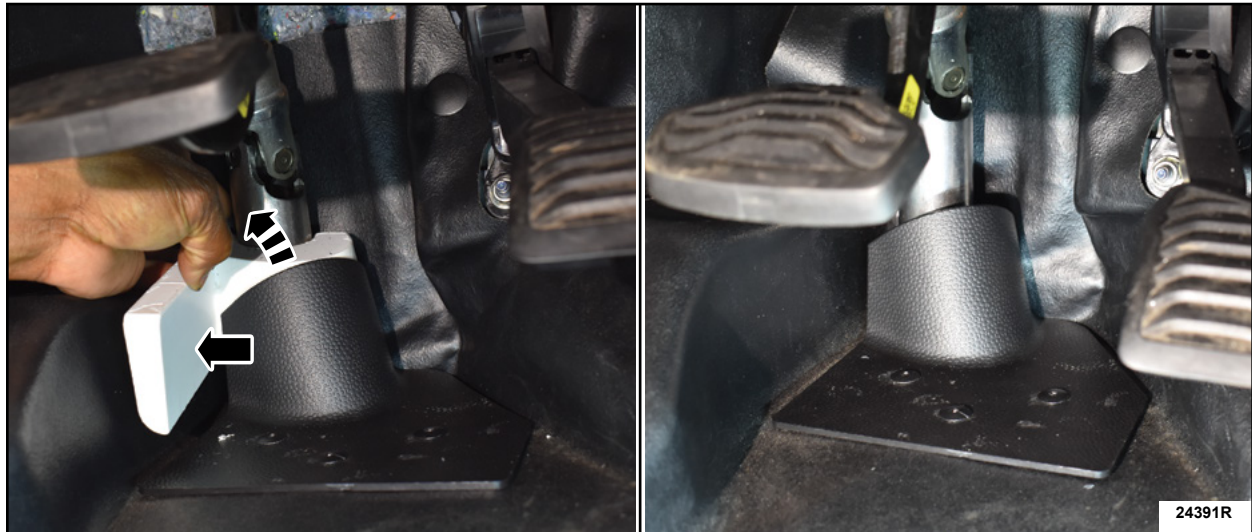

FIGURE 19
31. Using the 0.2 in. (5mm) drill bit, drill the other two (2) holes, using the holes in the shield as the template, and install both rivets. See Figure 19.
32. Remove the steering column shaft protective shield template. See Figure 19.